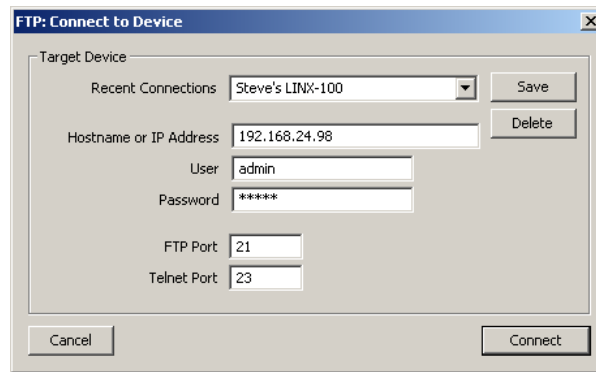

Figure 162: FTP connection dialog.
2. Select the menu: **Connection → Connect via FTP**. This opens the FTP connection dialog as shown in Figure 162.